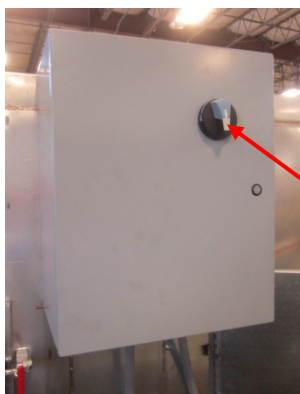

Figure 4-23-1
1. Shut off the electrical power by turning the Disconnect Switch on the Main Electrical Panel (Refer to Figure 4-23-1).
1. Turn off the power to the ESP Cells by turning the Disconnect Switch on the ClearAir Main Electrical Panel to the off position (Refer to Figure 4-23-1).